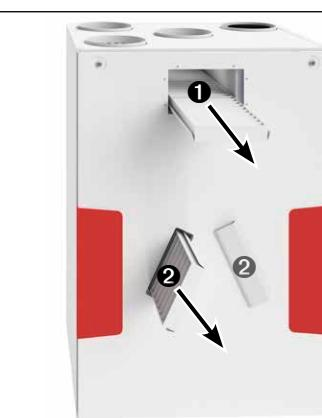

Fig. 39
2. Pull intake air filter **1** to the front and replace (see Fig. 39).
4. Pull extract air filter **2** to the front and replace (see Fig. 39).